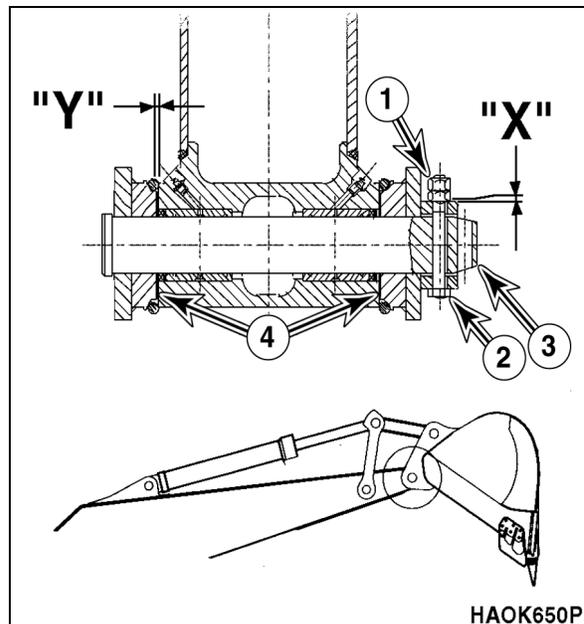

Figure 98
2. Force bucket to one side and check for end play (side-to-side) clearance under O-rings at attachment point. Total clearance should be 1 mm (0.04 in) between side face of boss and inside edge of ear bushing (Y, Figure 98). Too tight a fit (less than 1 mm (0.04 in)) can cause excessive wear while too much clearance may produce excessive noise and potentially hazardous slack control.
4. If an adjustment is required, remove two jam nuts (1, Figure 98) and bolt (2) from pin (3). Add or remove shims (4) as required. Use equal amount of shims on each side. Install bolt (2) and two jam nuts (1). Jam nuts must clear boss by 1 - 2 mm (0.04 - 0.08 in) at point (X).